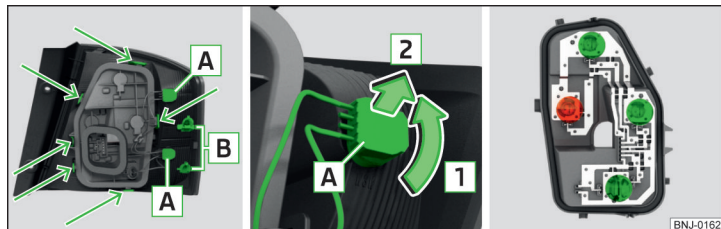

Fig. 219 Outer part of the lamp / removing the bulb / lamp holder
- Insert the lamp with the holes **B** » Fig. 219 on page 172 onto the pins **D**
- Turn the holder with the bulb **A** in the direction of the arrow **1** » Fig. 219.
- Turn the holders with the bulbs **A** in the direction of the arrow **1** » Fig. 219.
- Unlock the bulb holder using the marked area with arrows » Fig. 219 and remove the bulb holder from the light.